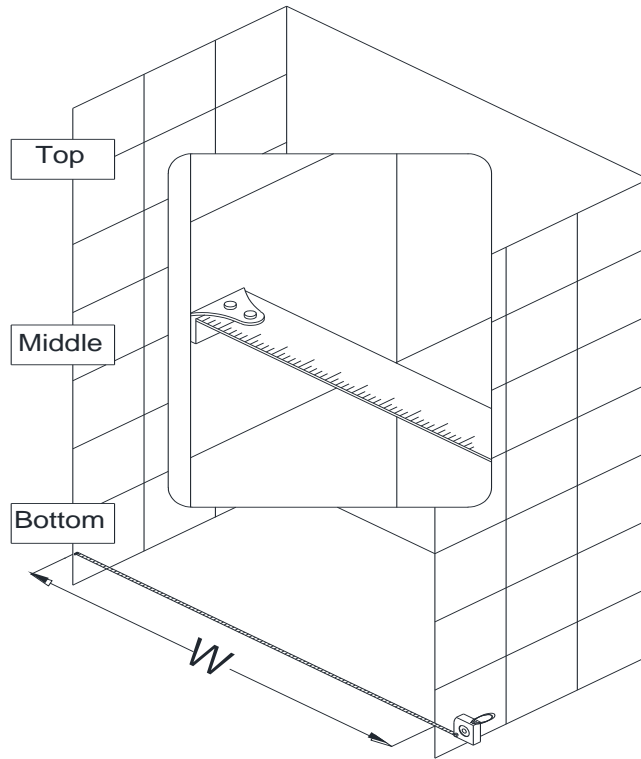

Fig. 1
1. Measure the distance between the two finished walls at the top (at unit height), middle and bottom. The wall profiles will adjust for out-of-plumb conditions. Use the smallest measurement as the finished dimension. See Fig. 1 for details.